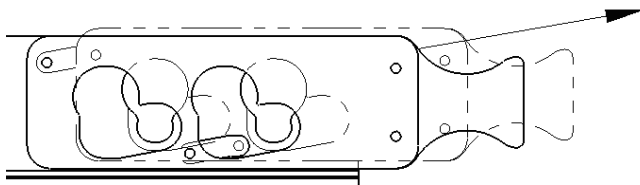

Figure 6
4. Slide the latch to open mounting slot (See figure 6).